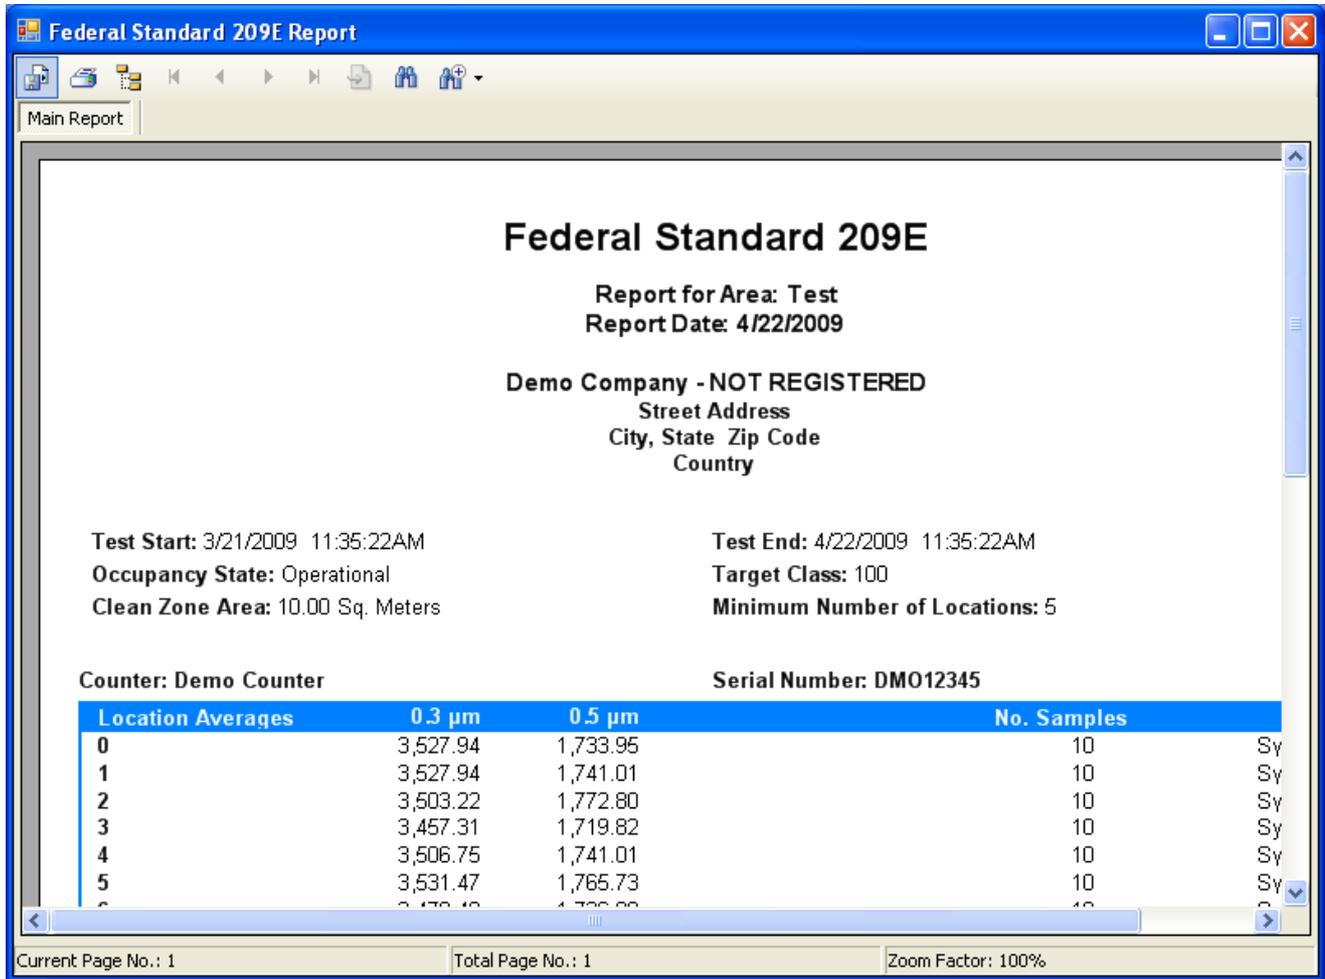

Figure 41 Sample Reporting
8. Click **NEXT** to create the report (Figure 41)
A sample of a report is shown in Figure 41. A description of the icons in the report window is shown in Table 6. The registered company name will appear on all reports once the software has been shifted from the DEMO mode by the installation of a valid license code.